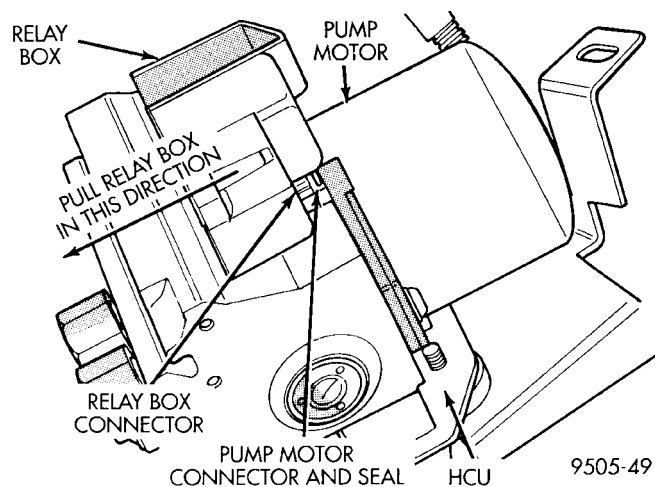

Fig. 25 Relay Box To HCU Electrical Connection
(5) Grasp relay box. Without twisting or rocking, pull relay box away from pump motor housing until connector on relay box unplugs from the pump motor terminal (Fig. 25). **This is a tight connection, relay box will require a good amount of force to unplug from pump motor.**